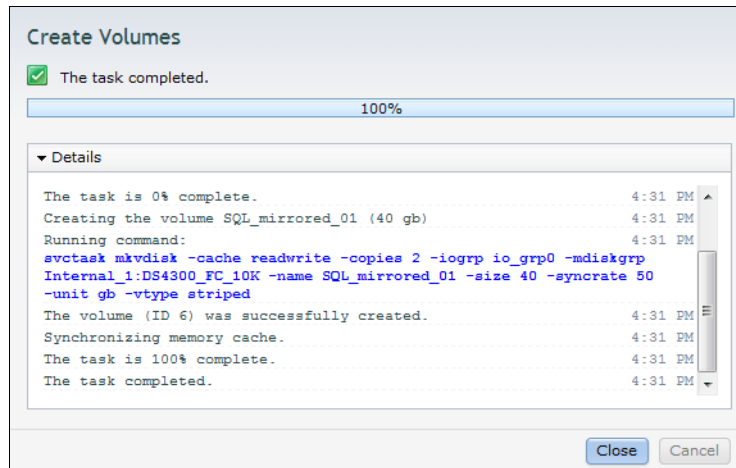

Figure 6-14 Create a mirrored volume - CLI command displays
6. Click **Create and Map to Host** and the mirrored volume is created (Figure 6-14).